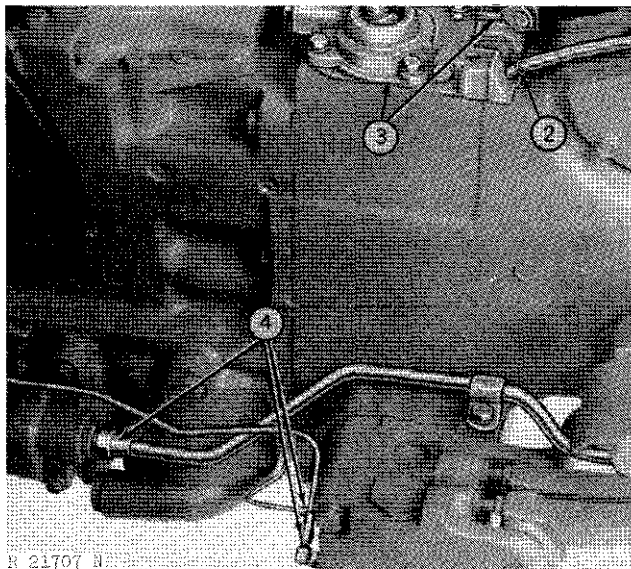

Fig. 10-Right-Hand Separation Procedures
2. Disconnect hydraulic oil reservoir vent hose (Fig. 10). Disconnect mid couplers (if equipped).